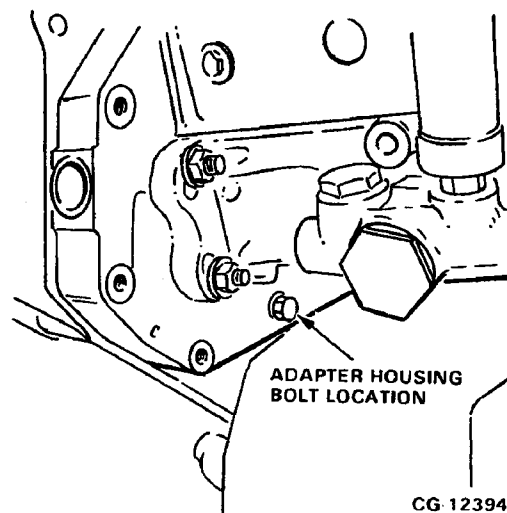

Figure 11.114. Remove Bottom/Rear (In-Board) Adapter Housing Bolt
14. Remove the adapter housing bolt and washer located at the bottom/rear (in-board) side of the adapter housing. Refer to Figure 11.114.